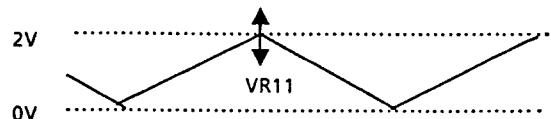

Fig. 4-19
- Adjust VR11 so that the peak level of triangle waveform becomes $2 \text{ V} \pm 0.05 \text{ V}$. (Fig. 4-19)